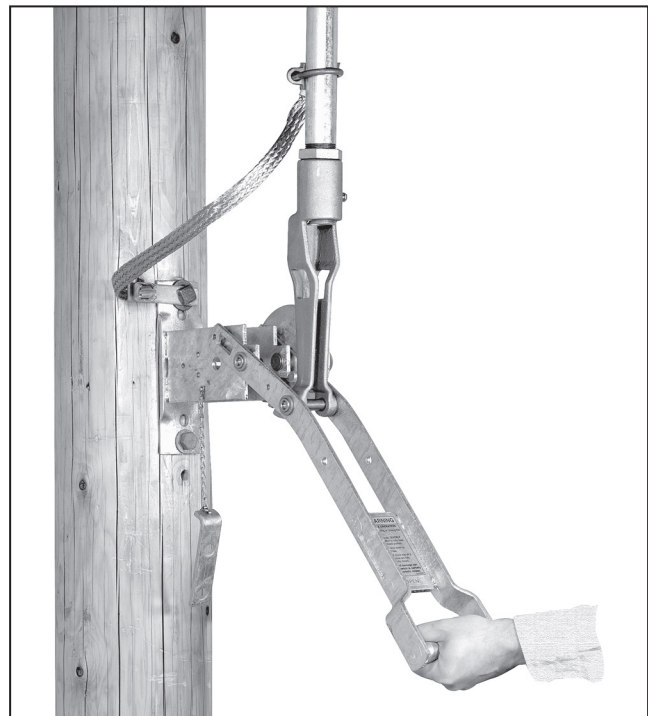

Figure 21. Verifying the slack has been taken up in the operating linkage.
STEP 19. Move the operating handle slowly to the **Closed** position. See Figure 21. A definite resistance should be felt at the end of the stroke, indicating that all slack in the operating linkage has been taken up.